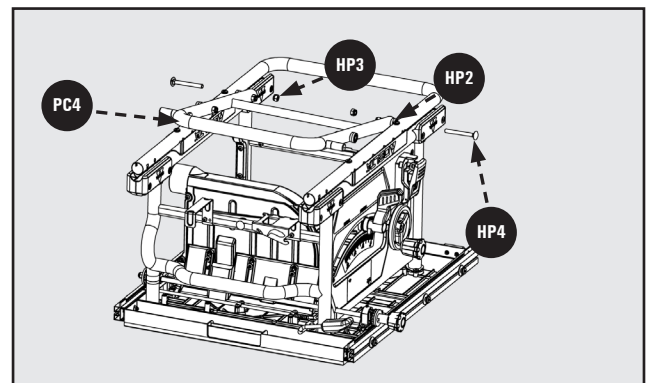

Figure 5
4. Secure Upper Stand Assembly (PC4) to Upper Stand Support (pre-attached to Saw) with M8 x 75mm Carriage Screw (HP4), M8 Plastic Spacer (HP2), and M8 Locknut (HP3). Secure the M8 Locknut using the 13mm Combination Wrench. See Figure 5.